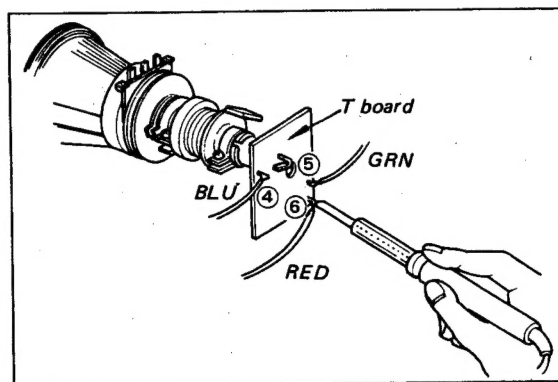

Fig. 3-4. Leads unsoldering
- (4) Unsolder the red and blue leads on the T board as shown in Fig. 3-4.